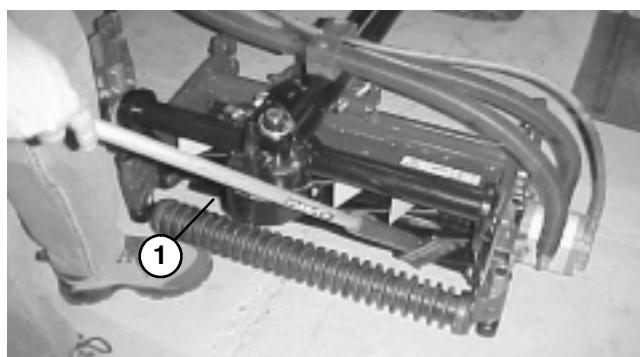

Figure 70
- Apply lapping compound with a long handle brush (Toro Part No. 29-9100). Never use a short handled brush (Fig. 70).